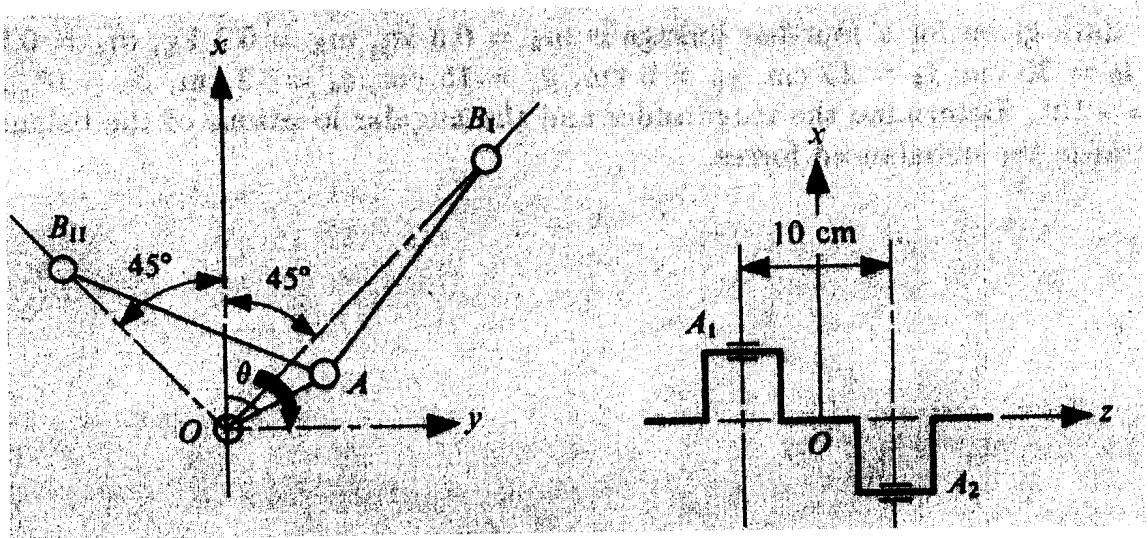

Figure 3
2. A rough casting of a rotor, with a mass of 200kg, is mounted on centres 110 cm apart for machining. The rotor is statically balanced by attaching two masses, one each in the planes A (9 Kg) and B (12 Kg), which are on opposite sides of the plane containing the mass centre of the rotor, at a distance of 50 cm and 35 cm, respectively, from it. The angle between the CG of the plane A and that of the plane B is  $90^\circ$ . The distance of each mass from the axis of rotation is 37 cm (for the plane A) and 44 cm (for the plane B). Determine the distance of the CG of the rotor from the axis of rotation, and its angular position with respect to the mass in the plane A. Also find the forces on the bearings when the rotor (with the masses attached in the planes A and B) runs at a speed of 100 rpm. (13)
3. In a four-cylinder engine, the centrelines the two pairs of cylinders form a V-angle of  $90^\circ$ . There are two cranks at  $180^\circ$ ; the distance between them is 10 cm. Each crank is connected to one pair of cylinders. The mass of the rcciprocating parts of each cylinder is 2 kg, the crank radius for each crank is 5 cm, and each connecting rod is 20 cm long. For the coordinate system shown in Figure.3, calculate the maximum primary and secondary components of the resultant unbalanced forces and moments when the engine is running at 1200 rpm. (13)